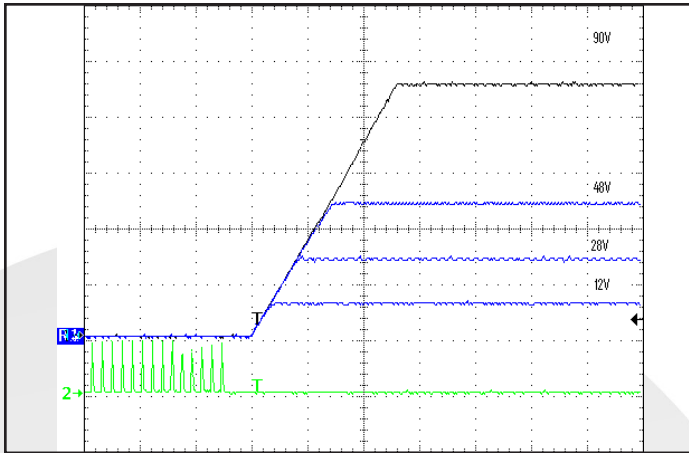

Figure 7: Turn-on transient at 28V input; full load (10ms/div). Top Traces: Vout (10V/div). Bottom Trace: ON/OFF input (5V/div)
**REMOTE ON/OFF:** Only Negative On/Off logic is available in the converter series: logic high at the input turns the converter Off while a logic low turns in On. Timing of this is shown in Figures 7, 8. A high level can be driven to any voltage between 1.5V and 3.3V, or simply left floating as the unit contains an internal 10KΩ pull-up to 3.3V. The pin can be pulled low (to  $V_{out-}$ ) by an optocoupler, an open-source/drain transistor or wired permanently to  $V_{out-}$ . To provide noise immunity the input has 0.3V of hysteresis.